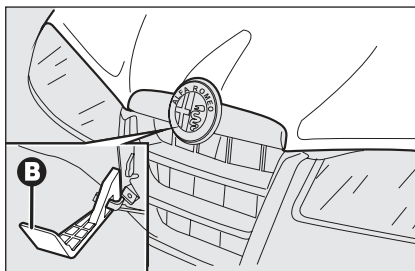

fig. 99
- ☐ press the safety lever **B-fig. 99** upwards and raise the bonnet.